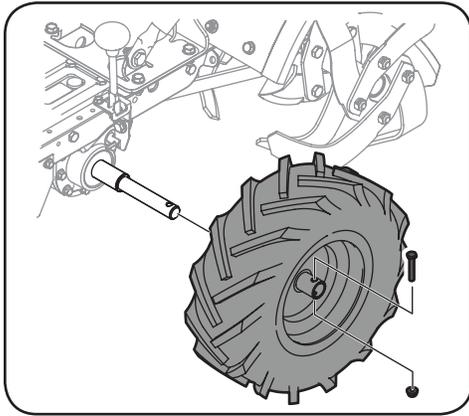

Figure 5-4
4. Remove the left-side wheel by removing the nut and bolt from the wheel axle. See Figure 5-4.